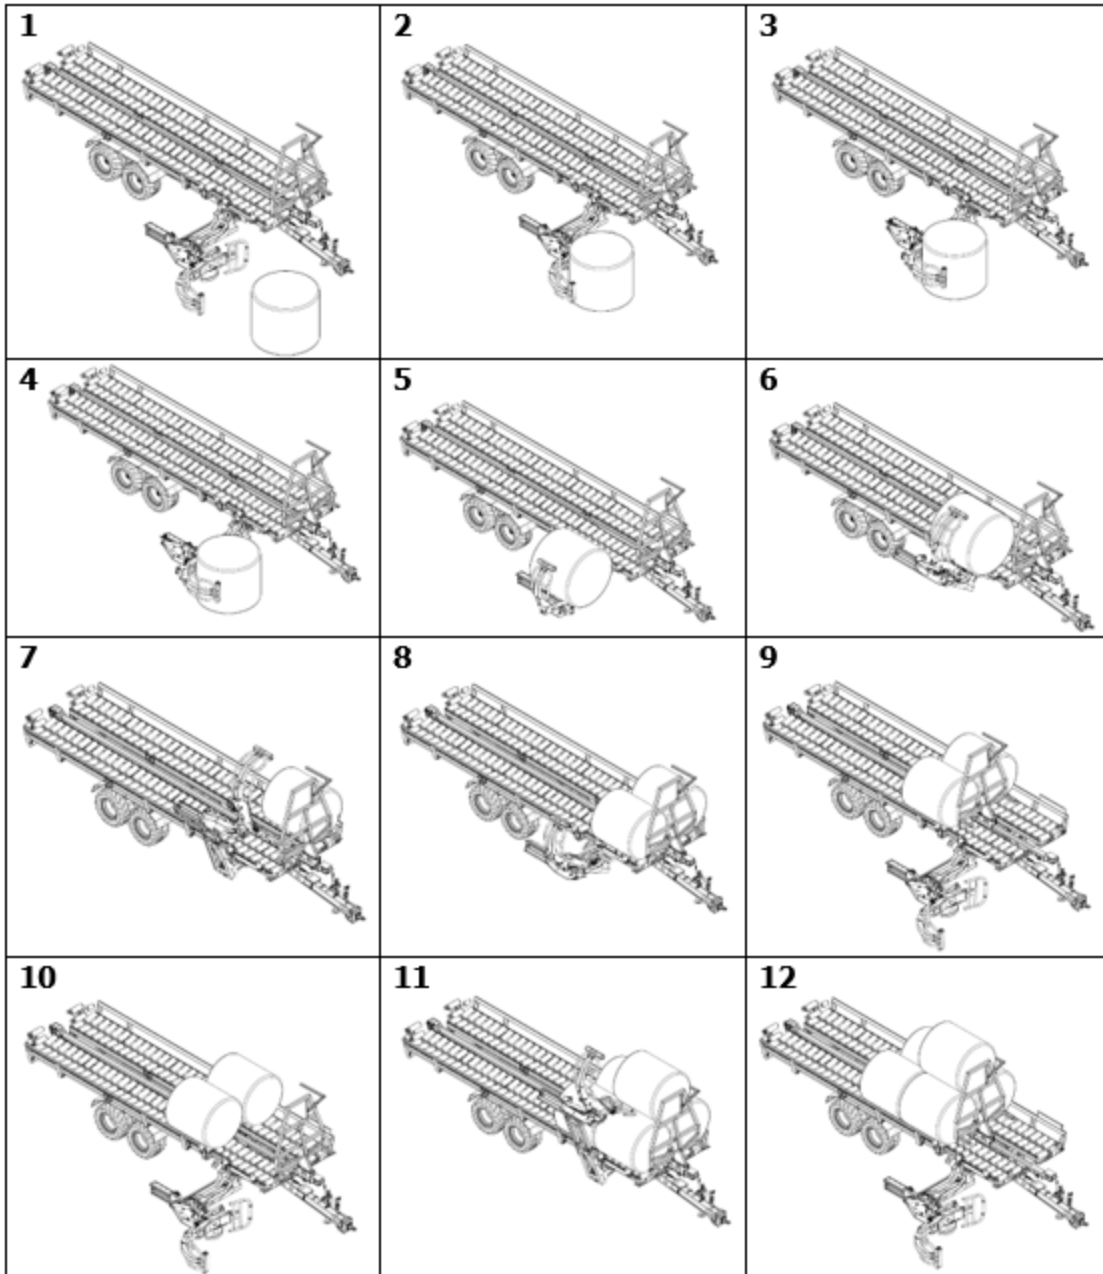
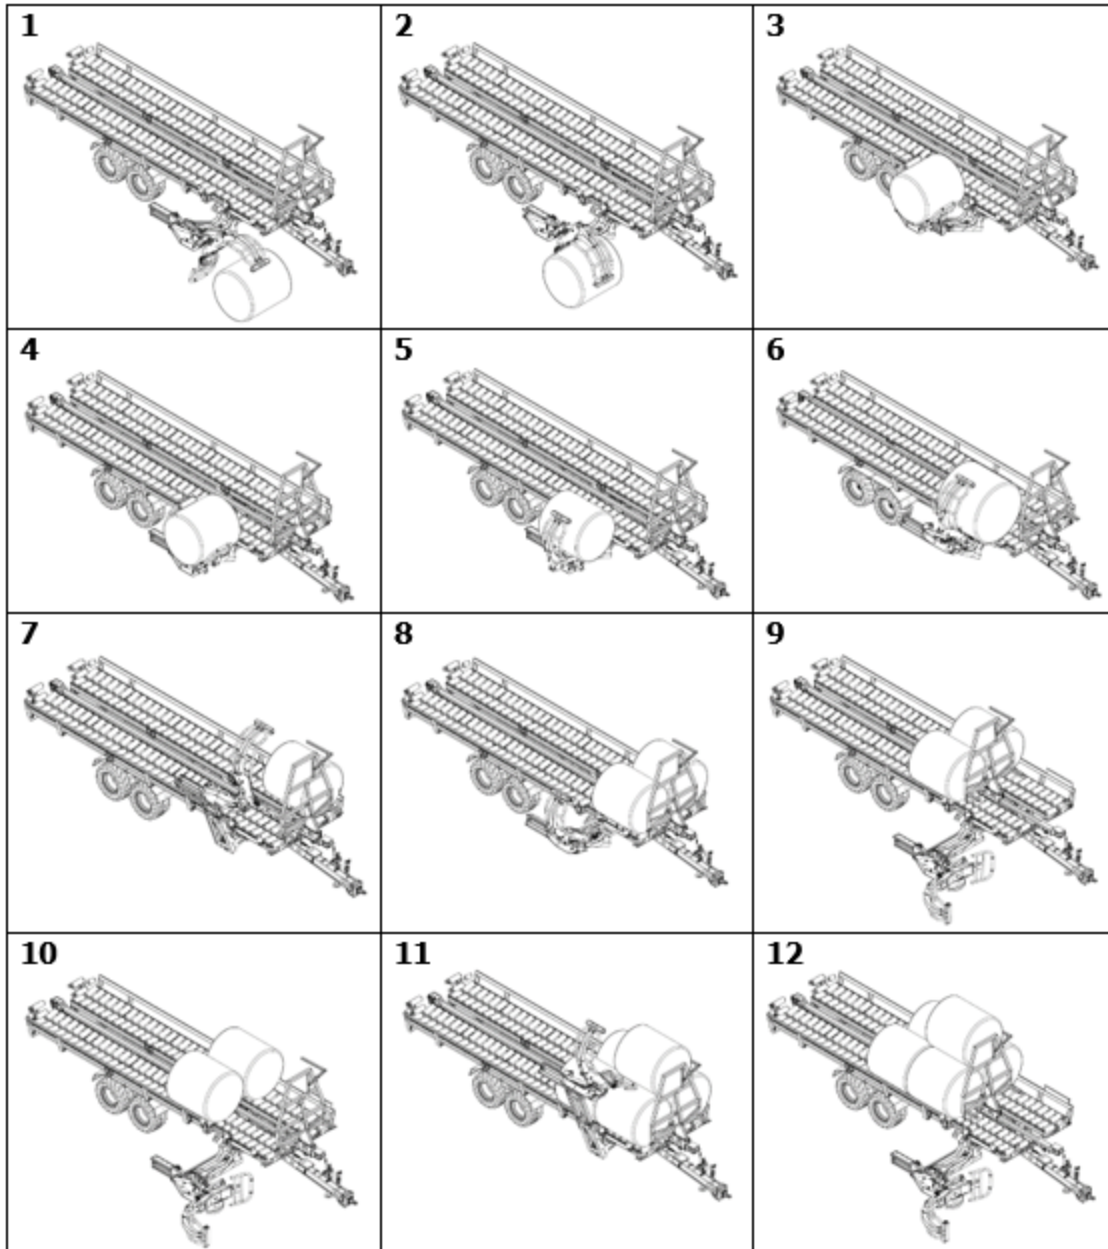

Figure 29 — Steps for Loading Vertical Bales
Figure 30 — Steps for Loading Horizontal Bales
3. Align the loading grabber such that the two arms are on either side of the bale to charge and slowly move forward. When the grabber sensors detect the bale, the loading sequence starts automatically. See Figure 29 and Figure 30 to understand the loading sequence.
Figure 29 shows the automatic loading sequence for bales that were placed in vertical position, and Figure 30 for bales placed in horizontal position.